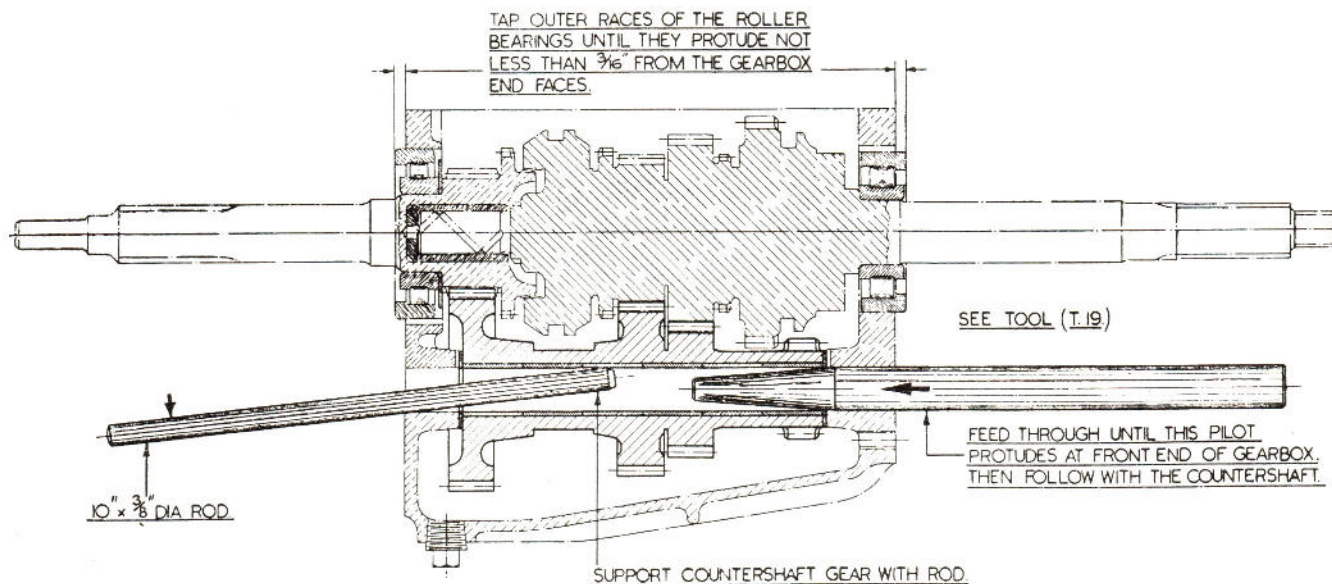

Fig. 51
14. With a screwdriver or tommy bar re-position the countershaft gears so that they are correctly in line with their mating gears on the mainshaft. Drive out the $\frac{3}{8}$ " rod by a large one as shown in Fig. 51 and follow this tool up with the countershaft. RE-CHECK THE ALIGNMENT OF THE GEARS ON THE COUNTERSHAFT WITH THOSE ON THE MAINSHAFT ENSURING THAT THE WHOLE BREADTH OF THE RESPECTIVE PAIRS OF GEARS ARE IN MESH.